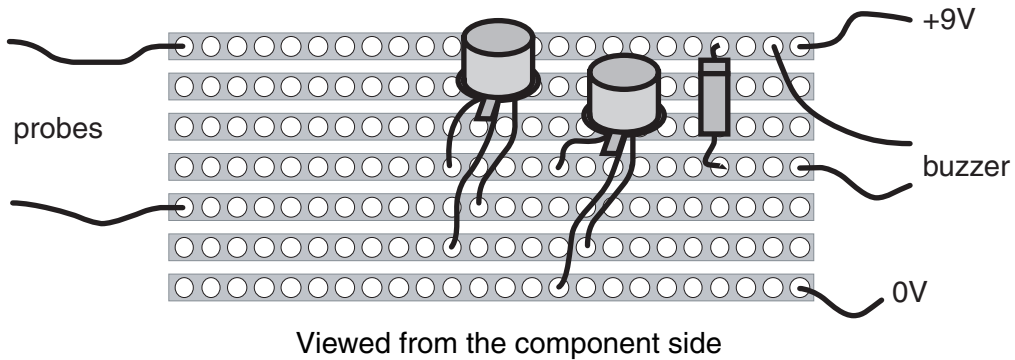

Fig. 9
- (i) Complete the stripboard layout for the circuit shown in Fig. 9.